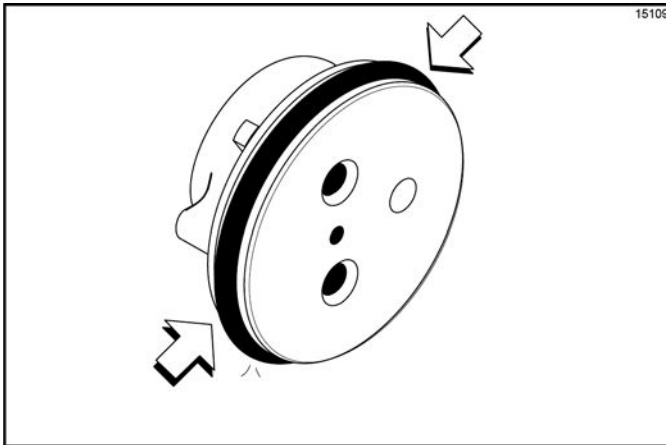

Figure 6-38
5. Assemble the valve cap. Slide the red O-ring into the groove of the valve cap. **Do not** lubricate the O-ring. (See Figure 6-38.)